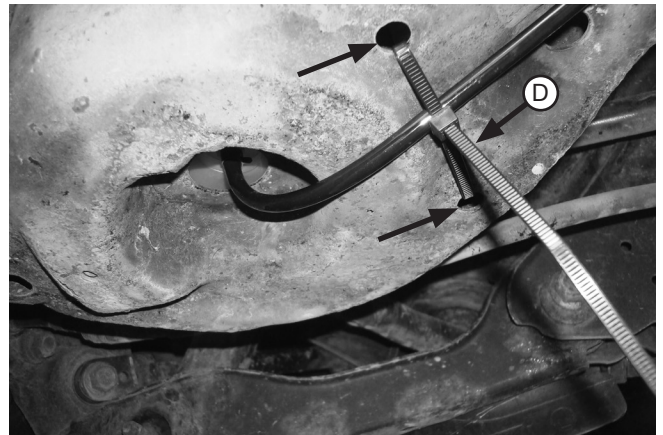

Fig. 6
- Use a zip tie (D) and the two holes in the lower control arm (Fig. 6) to secure the air line. Leave a little slack in the line.